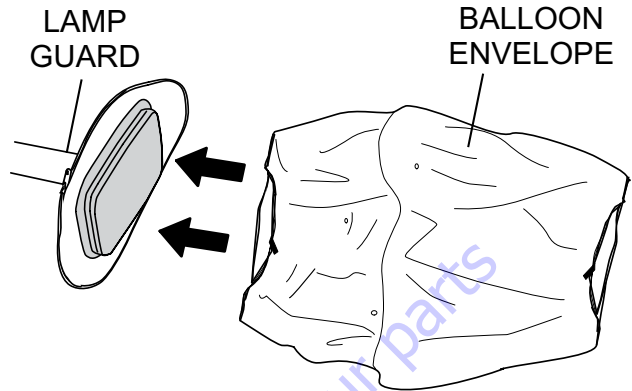

Figure 32. Installing New Balloon Envelope
3. Slide the new balloon (Figure 32) envelope over the top of the lamp guard assembly.